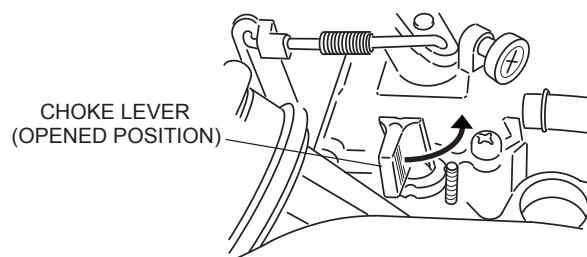

Figure 7. Choke Lever
2. Place the choke lever to the closed position. When the weather is cold, close the choke all the way. When it is hot, or if the engine is hot, open the choke a little or leave it fully open (Figure 7).
4. If engine fails to start, move the choke lever (Figure 7) to the half open position to avoid flooding.